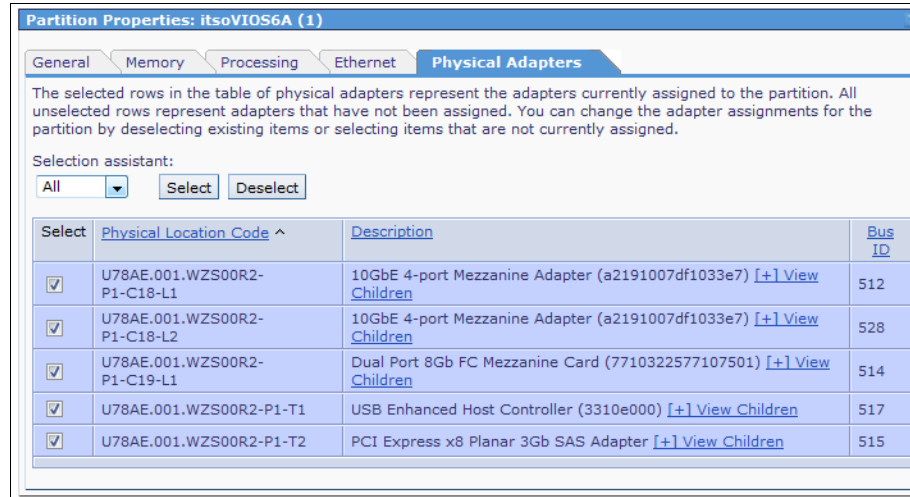

Figure 8-61 IVM Partition Properties Physical Adapters tab
12. As shown in Figure 8-61, click the **Physical Adapters** tab to view or modify the physical adapters that are assigned to the management or VIOS partition. These unassigned resources can be assigned to other partitions as real devices, if wanted.